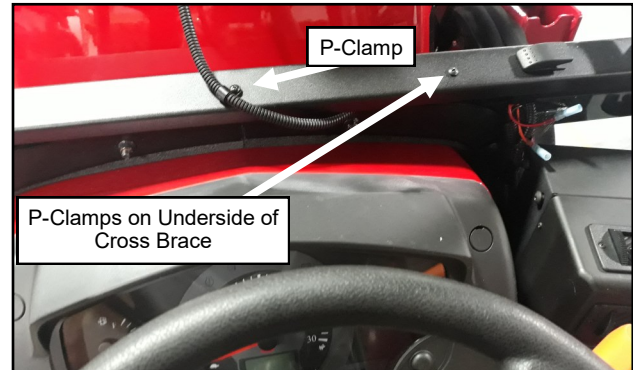

Fig. 11.1 (Attach Main Harness To Cowl)
- 11.1** Attach the main power wire harness to the top of the cowl cross brace, about 6" from the end of the windshield wiper motor connector, using a P-clip and hardware. The connector end should be outside the cab with the rest of the harness on the inside. See Figure 11.1.
- 11.3** Attach the harness to the under side of the cowl with the supplied P-clamp & hardware listed below. See Figure 11.1.